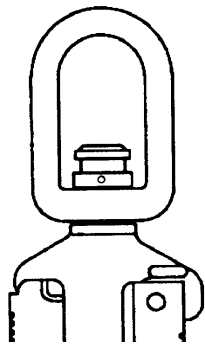
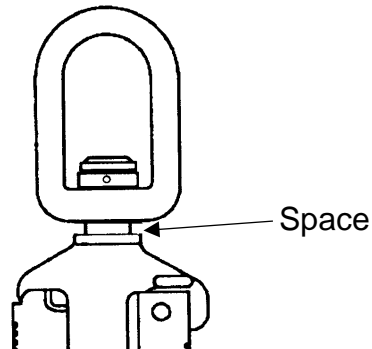
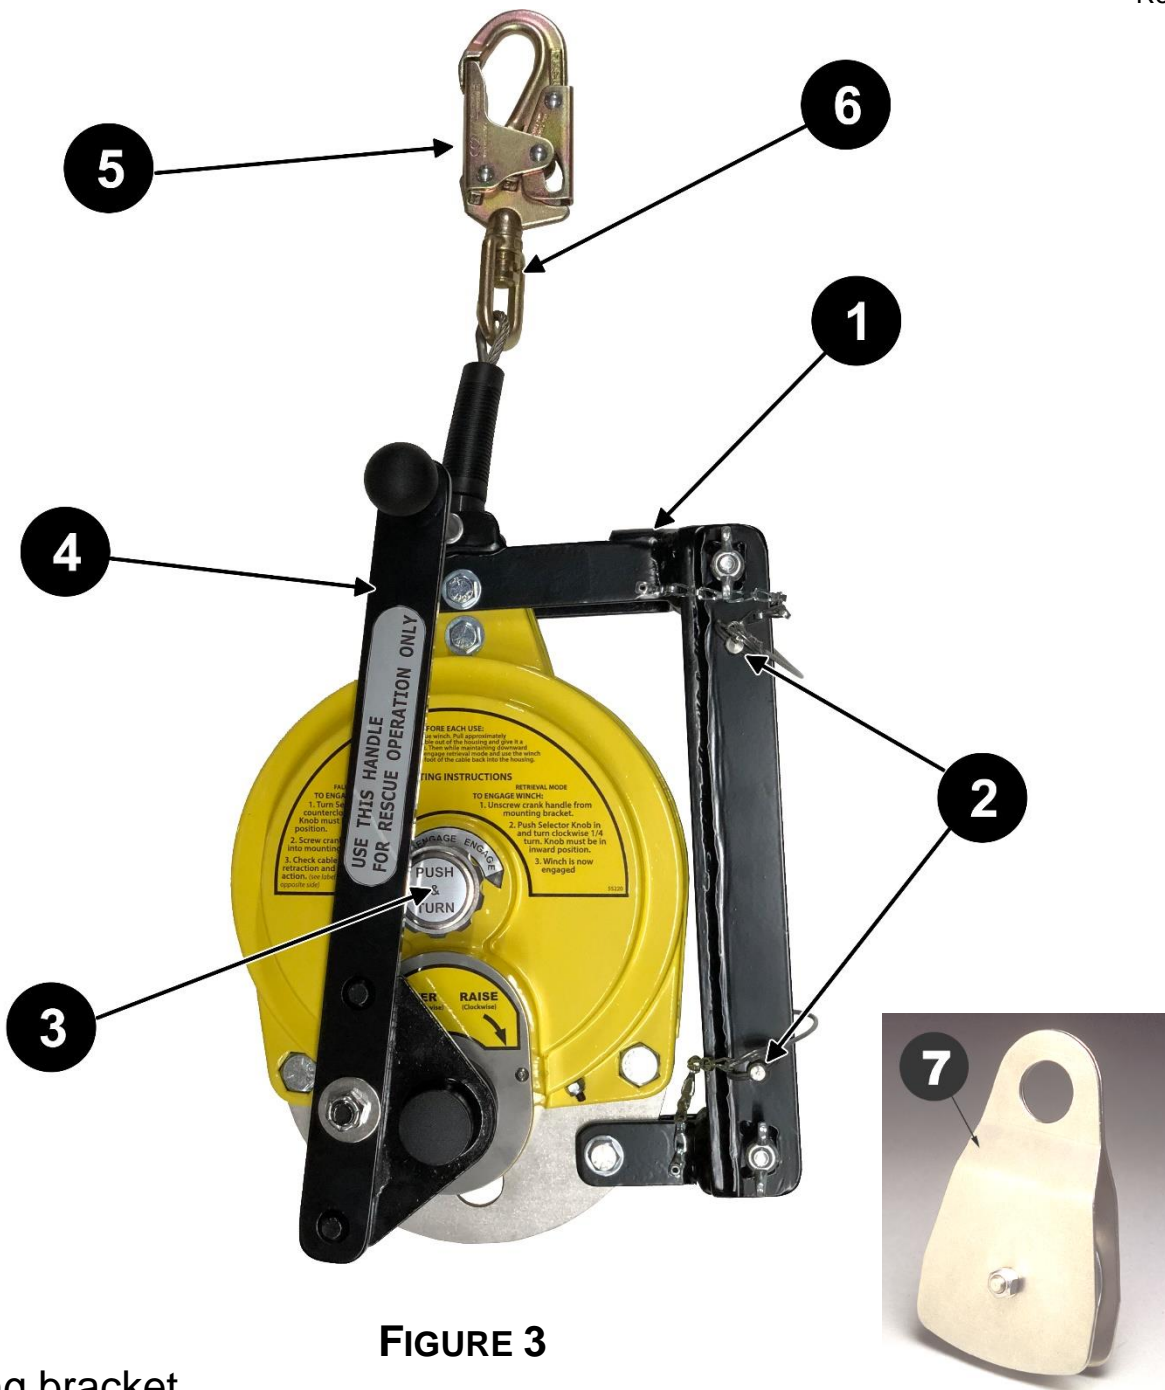

Figure 1 (New)
Figure 2 (Activated)
FIGURE 3
Your retractable lifeline may have been supplied with one of the two styles of stress indicators. It is located at the end of the lifeline's cable or rope, as an integral part of (shown) or just above the locking swivel snaphook (figure 3, page 7). When new, the stress indicator appears as shown in figure 1. If subjected to a fall arrest impact (activated), it will appear as shown in figure 2. **DO NOT USE** if the stress indicator has been activated.
inspect the entire fall arrest unit for any indication of damage, wear or malfunction to include, but not limited to, worn cable or damaged locking snaphook. Remove from service immediately if the unit is damaged, has been subjected to a severe fall, does not pass inspection, the stress indicator's (figure 3, (6), page 7) red area is visible or if the unit has not been inspected by the Gemtor factory within the last 12 months.
OPERATING INSTRUCTIONS (SEE FIGURE 3, PAGE 7):**Retractable Lifeline Operation (for fall arrest):**